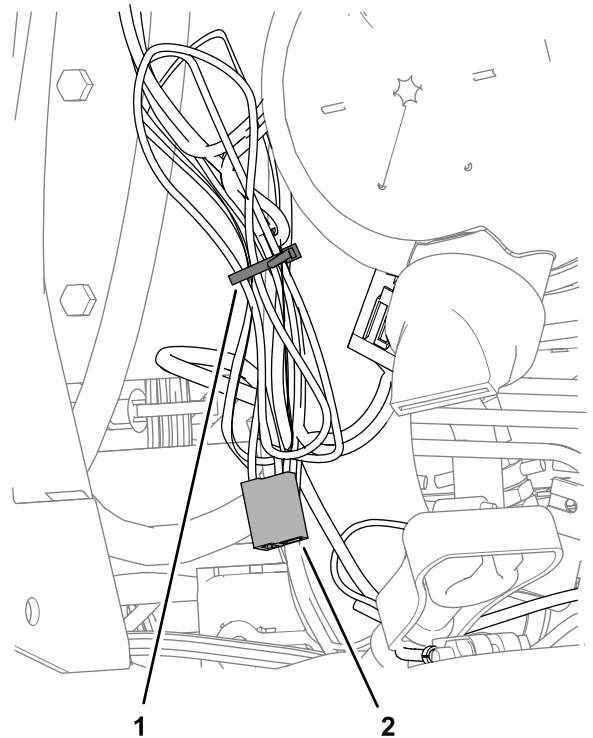

Figure 20
1. Bundle the unused power harness branch for the wash pump wires as shown in Figure 20.
2. Secure the wires with a cable tie (Figure 20).